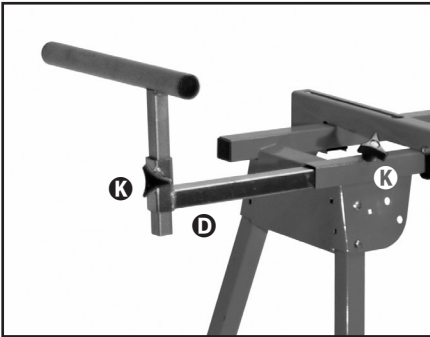

Figure 2
3. Thread 3-point knobs **K** into the weld nuts on the top of the frame tube. Install the outrigger support **D** and secure in place with 3-point knob. Figure 2.